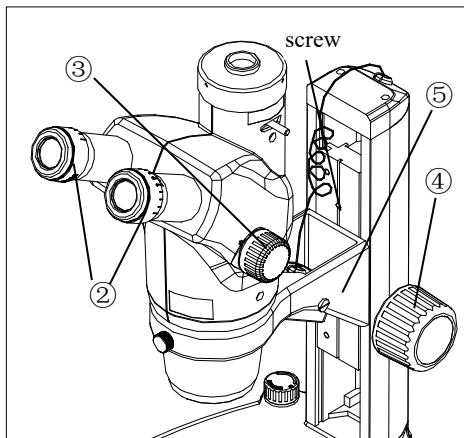

Fig 7
3.1.2 Diopter adjustment(fig.7)